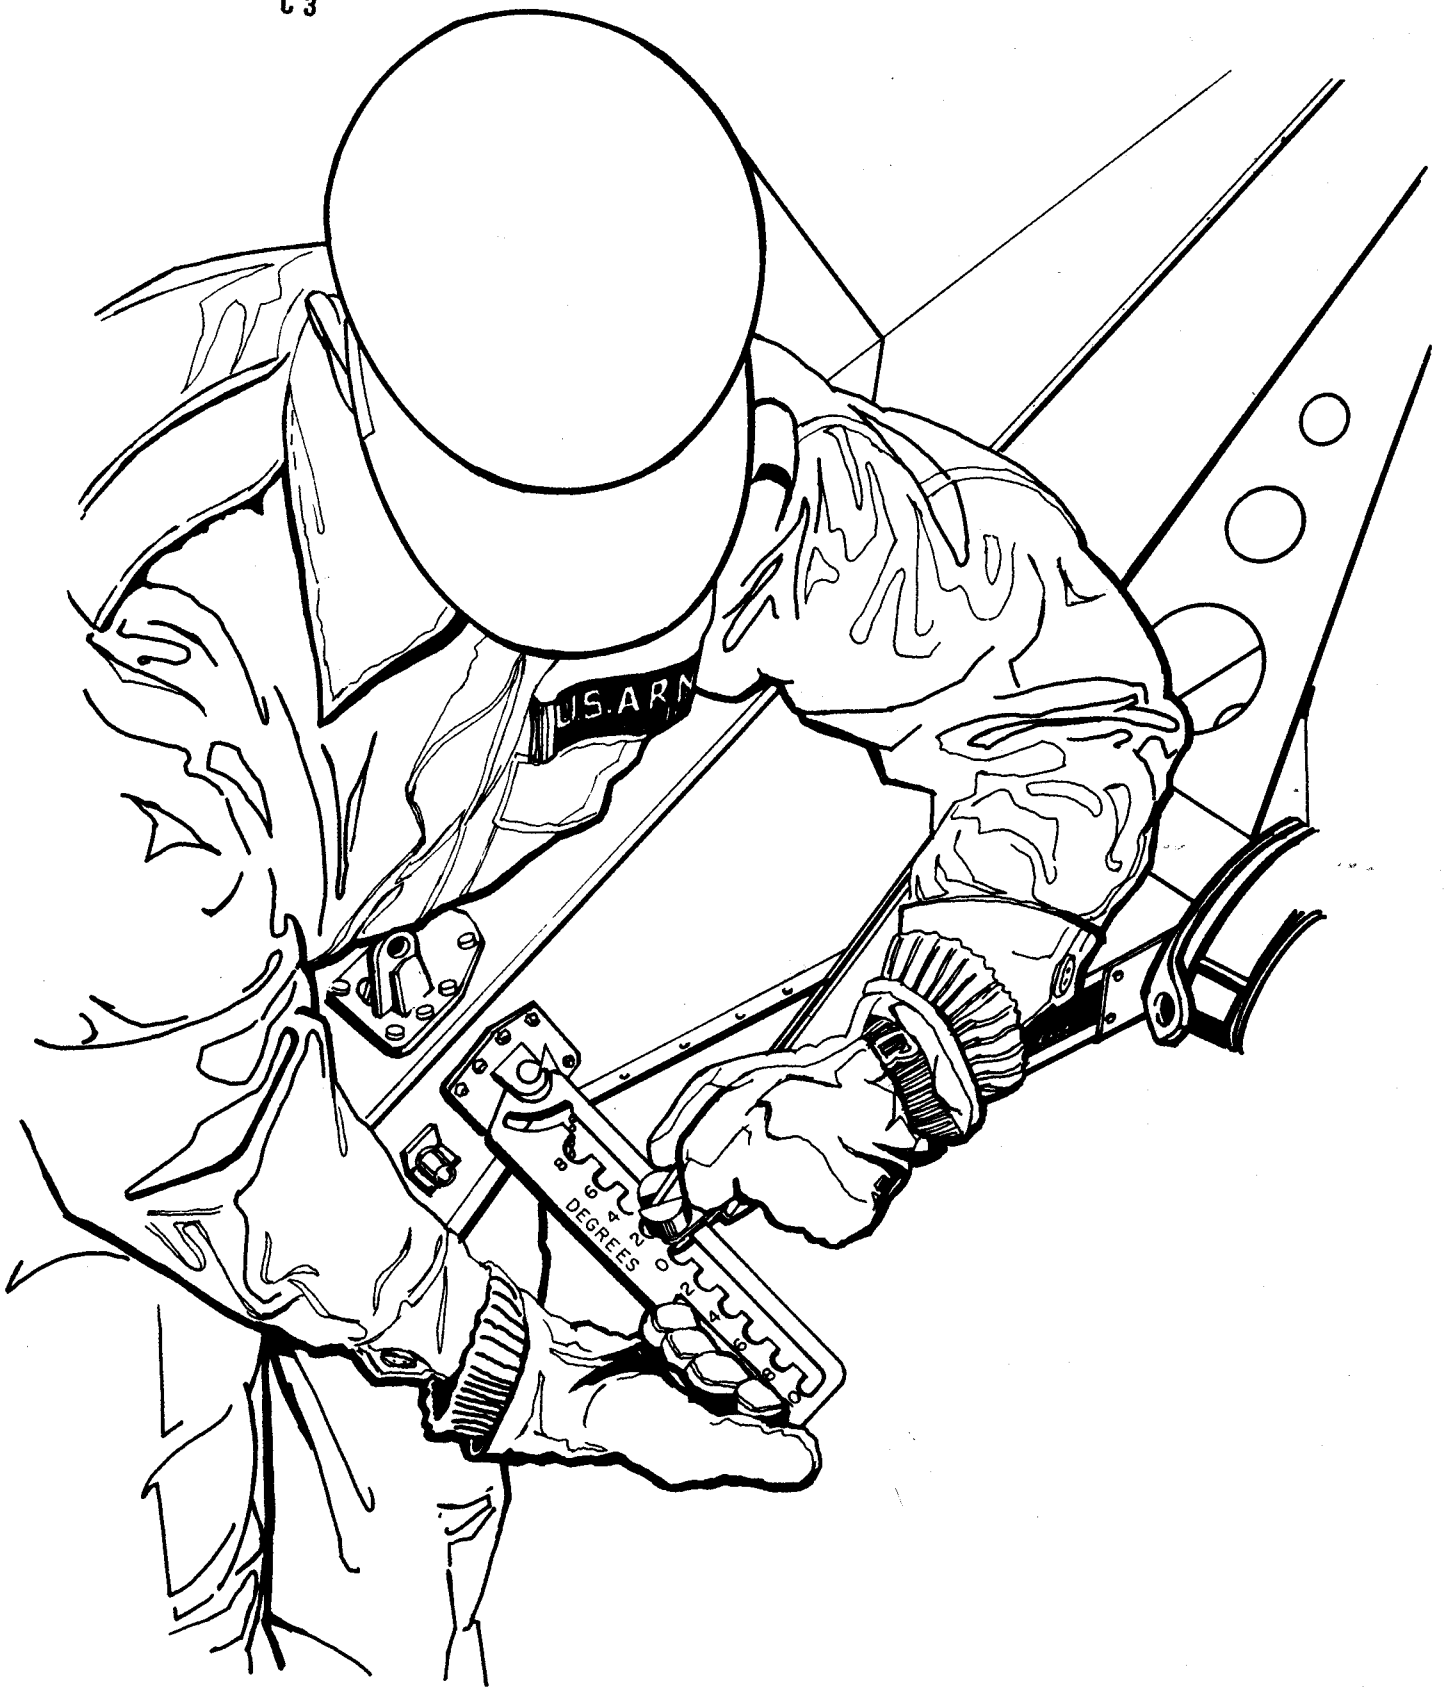

Figure 2-13. Depression/elevation adjustment, AT-903/G.
- (1) Check the AT-903/G polarization and the depression/elevation setting (para 2-3); adjust as necessary (fig. 2-13).
(1) Check the polarization and the depression/elevation settings (para 2-3) of the AT-903/G's; adjust as necessary (fig. 2-13).